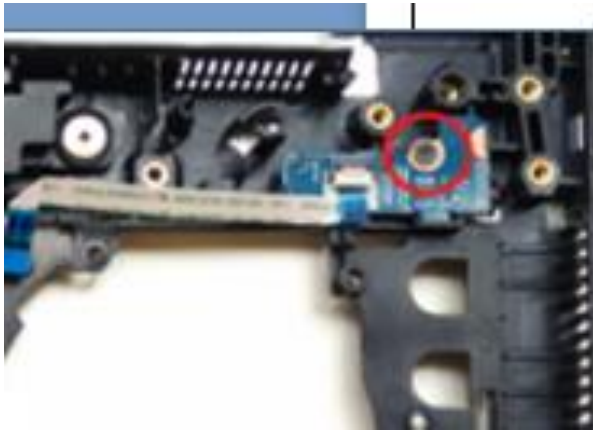

Fig.1
1. Loosen Power/B screw*1(M2.0*3.0), then disassemble Power/B from top case(Fig.1).